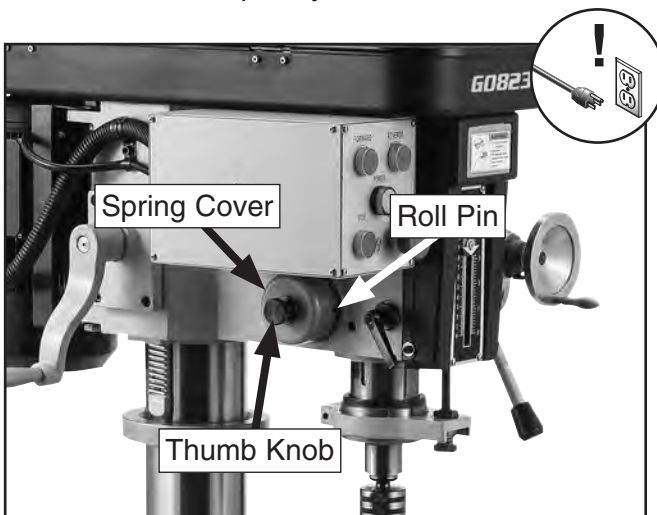

Figure 42. Spring tension components.
3. Loosen thumb knob (see **Figure 42**) 2–3 turns. DO NOT completely remove thumb knob.